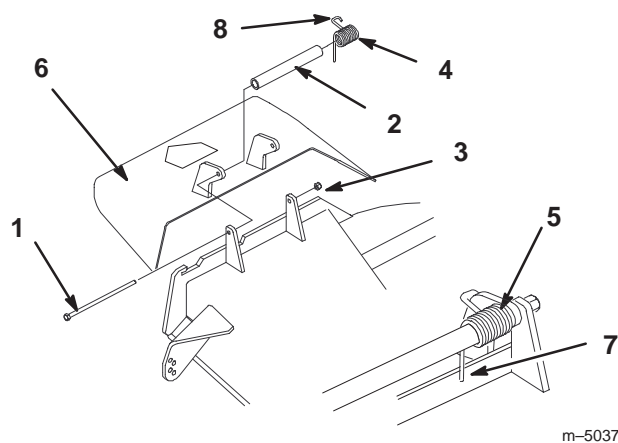

Figure 72
1. Remove the locknut, bolt, spring and spacer holding the deflector to the pivot brackets (Fig.72). Remove damaged or worn grass deflector.
Note: Make sure the straight end of spring is installed behind deck edge before installing the bolt as shown in figure 72.
3. Install bolt and nut. Place hook end of spring around grass deflector (Fig. 72).